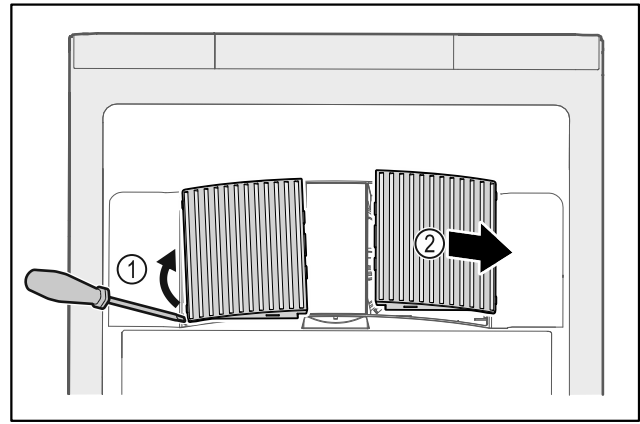

Fig. 125
- ▶ Carefully lever out fan covers from the side Fig. 125 (1) and remove towards the front Fig. 125 (2).